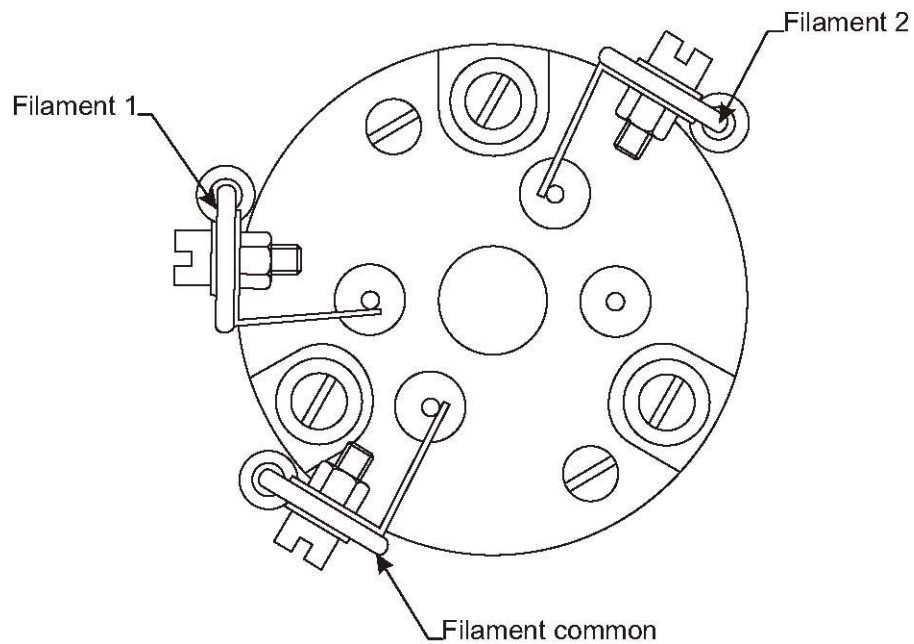

Figure 6.2 Filament wires
13. With a suitable meter, check that the resistance between the Filament 1 copper lead and the filament plate (Filament common) and between the Filament 2 lead and the filament plate is approximately 1 ohm. See Figure 6.2. The filament and its leads must have